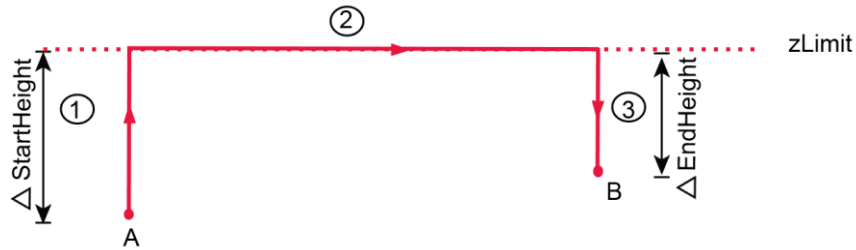

Figure 2.10 Jump mode (1)
- If point **A** plus **StartHeight** or point **B** plus **EndHeight** is higher than **zLimit**, the robot moves up from point **A** to **zLimit** or moves down from **zLimit** to point **B** directly, the trajectory looks like a door without transition, as shown in Figure 2.10.